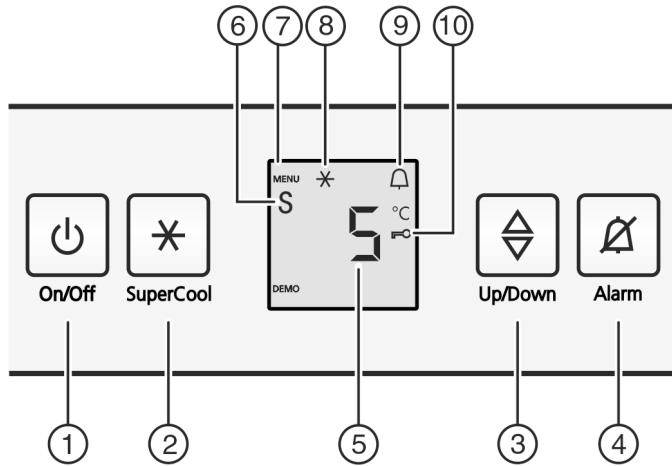

Fig. 2
- ▶ Press the On/Off button Fig. 2 (1).
- ▶ Activate setting mode: Press the SuperCool button Fig. 2 (2) for around 5 seconds.
- ▷ The menu symbol Fig. 2 (7) shines.
- ▶ Use the Settings button Fig. 2 (3) to select **c**.
- ▶ Briefly press the SuperCool button Fig. 2 (2) to confirm. When **cl** is indicated in the display:
- ▶ to activate the child lock, briefly press the SuperCool button Fig. 2 (2).
- ▷ The child lock symbol Fig. 2 (10) shines. **c** flashes in the display.
- ▶ to deactivate the child lock, briefly press the SuperCool button Fig. 2 (2).
- ▷ The child lock symbol Fig. 2 (10) goes out. **c** flashes in the display.
- ▶ To deactivate the set-up mode: press On/Off button Fig. 2 (1).
- ▶ Press alarm button Fig. 2 (4).
- ▶ Activate setting mode: Press the SuperCool button *Fig. 2 (2)* for around 5 seconds.
- ▷ The Menu symbol *Fig. 2 (7)* lights up.
- ▶ To call up the Sabbath Mode function: Briefly press the SuperCool button *Fig. 2 (2)*.
- ▶ To switch on Sabbath Mode, briefly press the SuperCool button *Fig. 2 (2)*.
- ▶ To switch off Sabbath Mode, briefly press the SuperCool button *Fig. 2 (2)*.
- ▶ Deactivate setting mode: Press the On/Off button *Fig. 2 (1)*.
- ▷ The temperature display shows the Sabbath Mode symbol *Fig. 2 (6)* as long as Sabbath Mode is on.